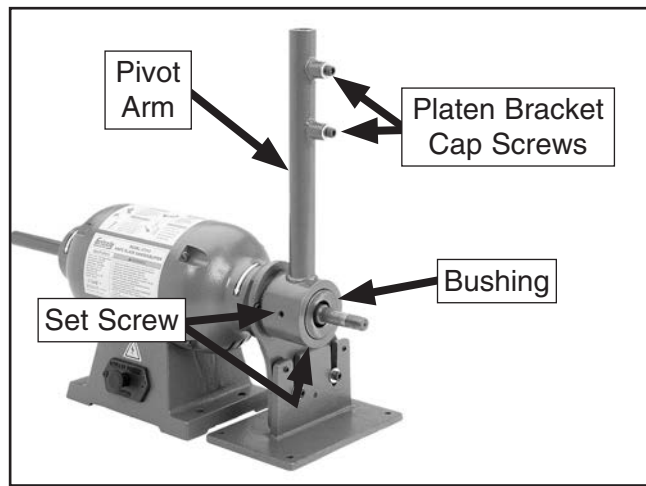

Figure 12. Pivot arm installed.
- Back out the two set screws in the round housing of the pivot arm, slide the arm onto the bracket bushing so that the platen bracket cap screws are facing to the right, as shown in **Figure 12**, then tighten the set screws to hold the pivot arm in place.